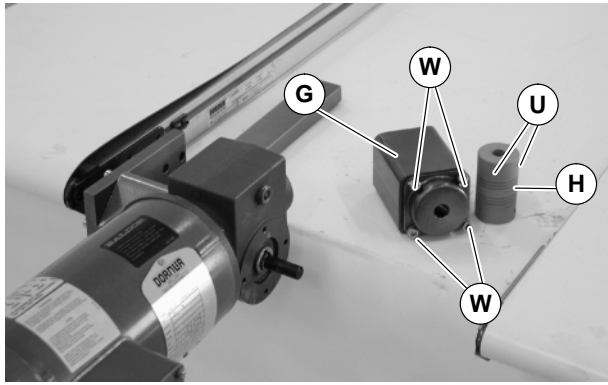

Figure 35
5. Remove four (4) screws (W of Figure 35) and remove guard tube (G). Loosen set screws (U) and remove flex coupling (H).